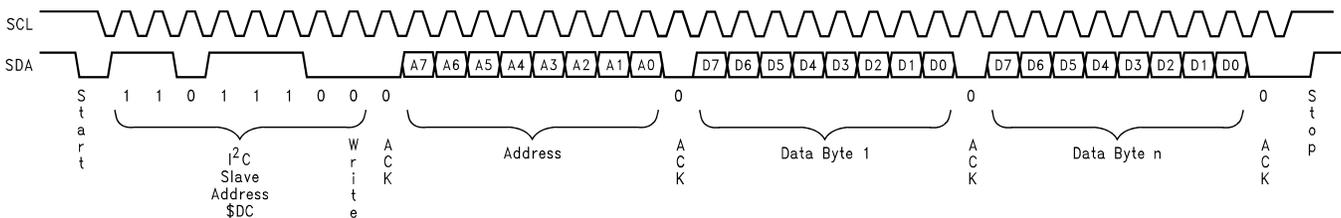
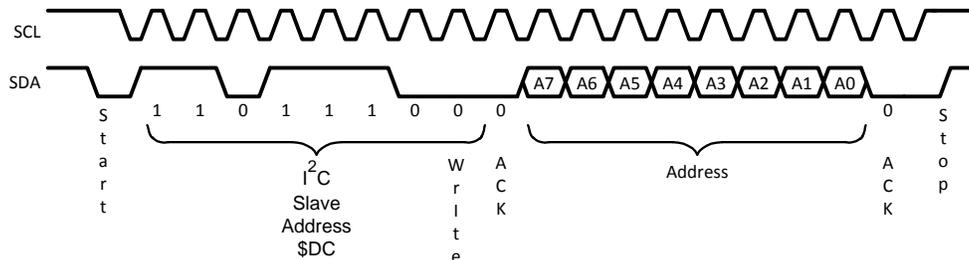
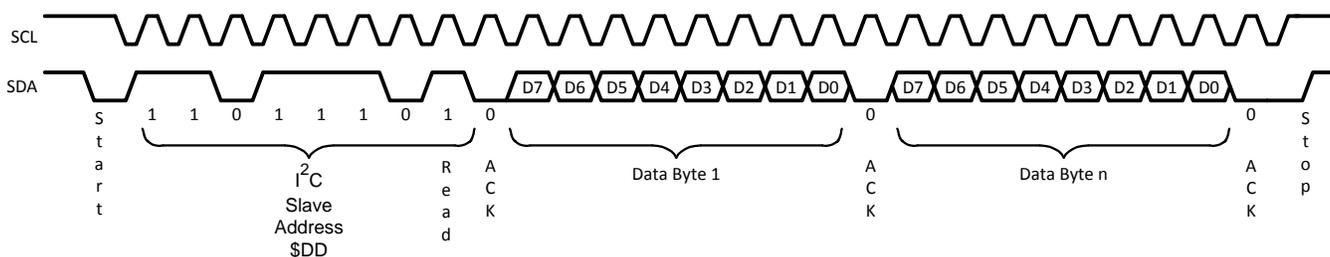

Figure 9. LMH1982 Write Sequence
Figure 10. LMH1982 Read Sequence – Address Access Transfer
Figure 11. LMH1982 Read Sequence – Data Read Transfer
The protocol of the I²C interface begins with the start pulse followed by a byte comprised of a seven-bit slave device address and a read/write bit as the LSB. Therefore, the address of the LMH1982 for write sequences is DCh (1101 1100) and the address for read sequences is DDh (1101 1101). Figure 9, Figure 10, and Figure 11 show a write and read sequence across the I²C interface.
The write sequence begins with a start condition, which consists of the master pulling SDA low while SCL is held high. The slave device address is sent next. The address byte is made up of an address of seven bits (7:1) and the read/write bit (0). Bit 0 is low to indicate a write operation. Each byte that is sent is followed by an acknowledge (ACK) bit. When SCL is high the master will release the SDA line. The slave must pull SDA low to acknowledge. The address of the register to be written to is sent next. Following the register address and the ACK bit, the data byte for the register is sent. When more than one data byte is sent, it is automatically incremented into the next address location. See Figure 9. Note that each data byte is followed by an ACK bit.
The address access transfer shown in Figure 10 consists of a start pulse, the slave device address including the read/write bit (a zero, indicating a write), then its ACK bit. The next byte is the address to be accessed, followed by the ACK bit and the stop bit to indicate the end of the address access transfer.
The subsequent read data transfer shown in Figure 11 consists of a start pulse, the slave device address including the read/write bit (a one, indicating a read) and the ACK bit. The next byte is the data read from the initial access address. Subsequent read data bytes will correspond to the next increment address locations. Each data byte is separated from the other data bytes by an ACK bit.